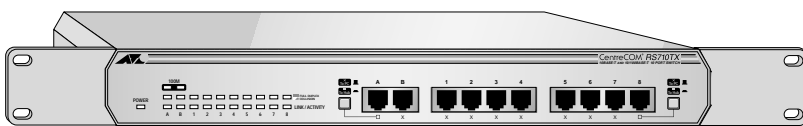

Figure 7: Switch With Rackmount Brackets
2. Attach the rackmounting brackets to each side of the switch, using the 8 small screws provided (4 on each side). See Figure 7.